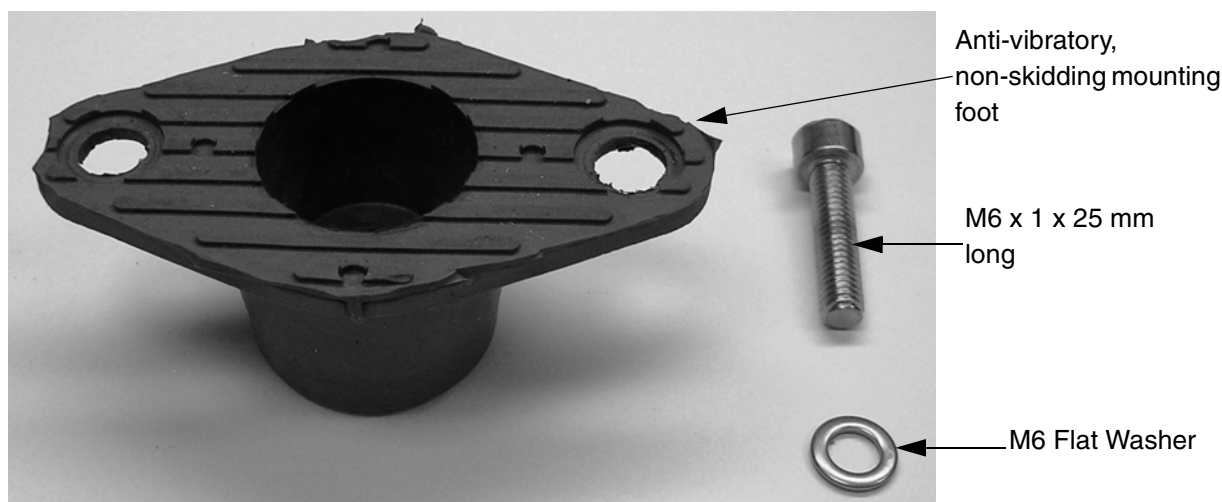

Figure 1-1 Vibration Isolation Kit Components
2. Position the flat washer under the screw's head and place the M6 screw through the mount hole (Figure 1-1).